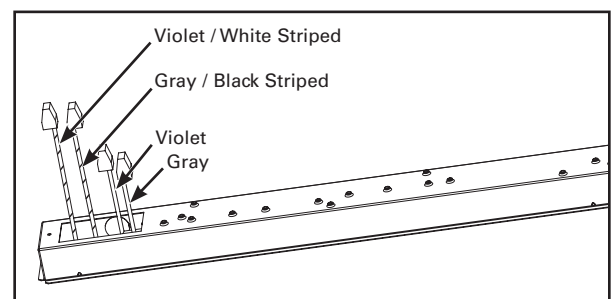

Figure 2.
2. Locate four control wires with push nuts (violet, gray, violet / white stripe, gray / black stripe). (Figure 2.)
3. Use the supplied push nuts to connect the control input 0-10V dimming violet and gray wires to the corresponding fixture violet and gray wires. (Figure 2.)
4. Use the supplied push nuts to connect the control input 0-10V CCT wires to the corresponding fixture violet/white stripe and gray/black stripe wires. (Figure 2.)